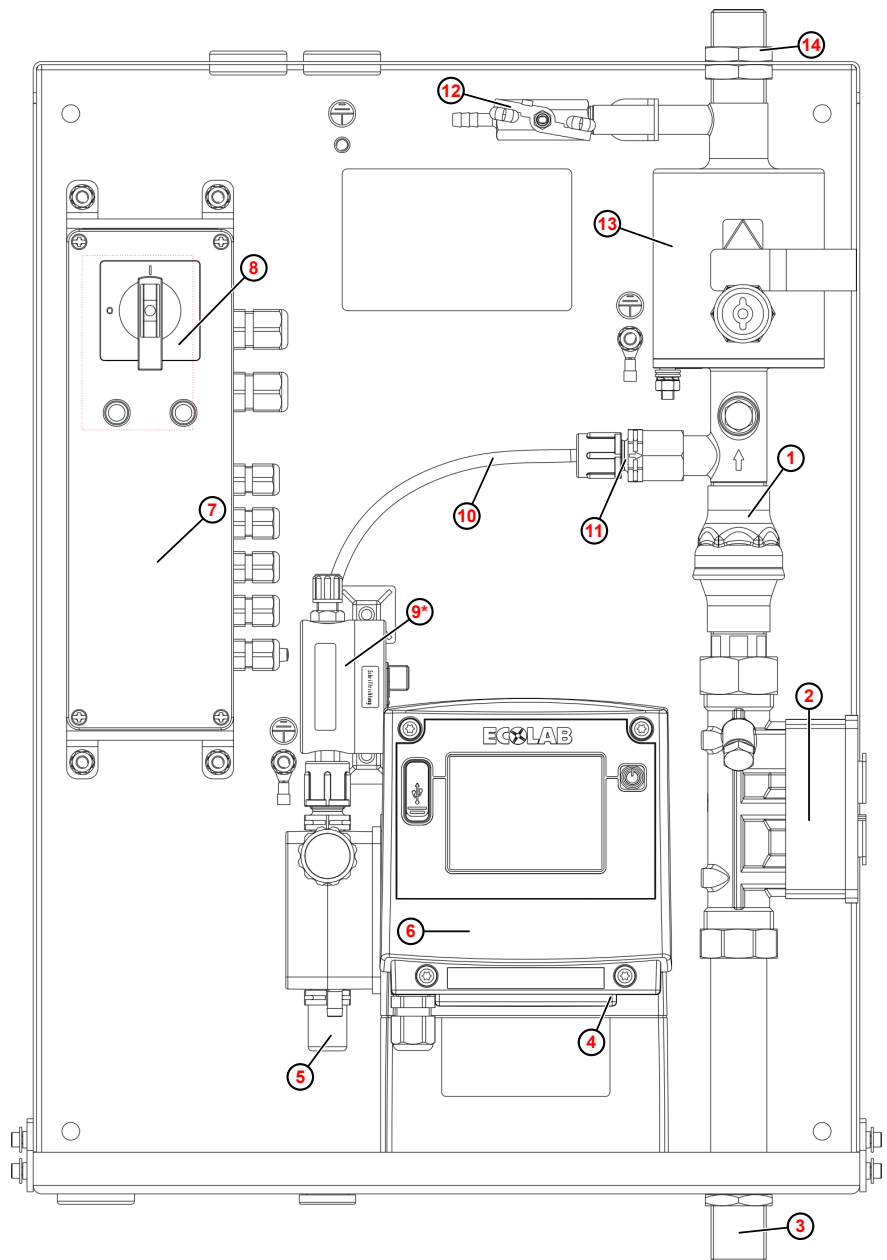

Fig. 2: Connection overview: Lub-O-Mat Eco
5. → Connect the fresh water distributor to the fresh water connection Fig. 2, ③ on the Lub-O-Mat Eco.
6. → If necessary, install the optional fresh water meter, OGMPLUS, between the metering pump Fig. 2, ⑥ and the mixing chamber Fig. 2, ⑬.
1. ➤ Connect the product line for the pipework system on the belt lubrication system to the consumer connection Fig. 2, ⑭ on the Lub-O-Mat Eco.
3. ➤ Route the suction line for Lub-O-Mat Eco and connect it to the suction line connection Fig. 2, ⑤ on the metering pump.
4. ➤ Connect the empty signal plug of the suction lance to the dosing pump Fig. 2, ④.